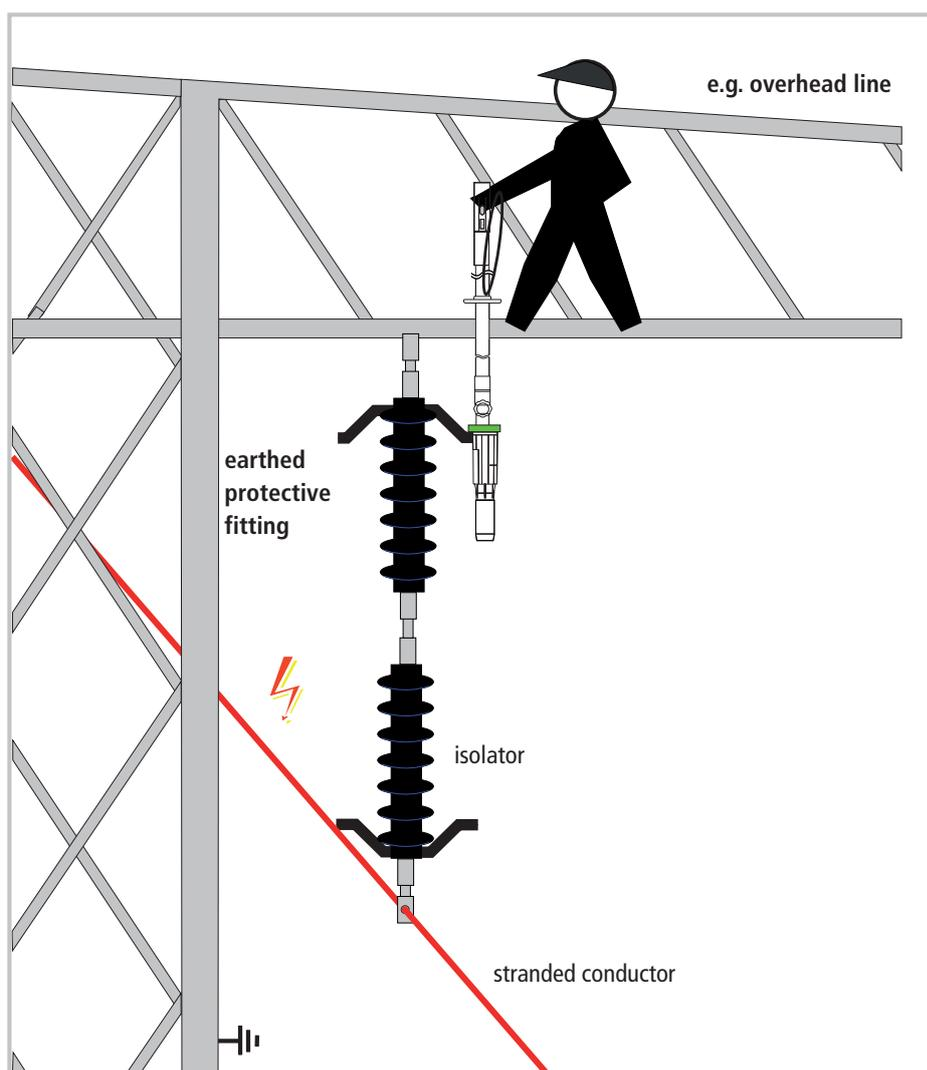

Fig. 4.2.2b Use for overhead lines
- Position the EFS L 127 **electric field sensor** in parallel to the axis of the insulator set in the direction of the stranded conductor to be tested (see Fig. 4.2.2b).